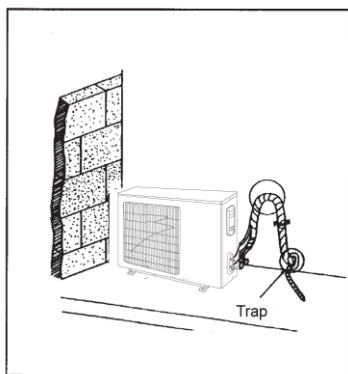

Fig. 16
- 2). All pipes are bound and taped together and also should be trapped to prevent water from returning to the room (See Fig. 16)